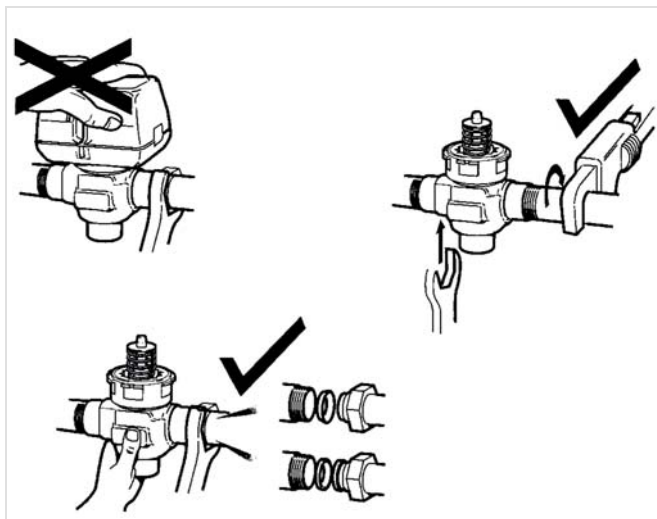

Fig. 5 Plumbing
- 3) The actuator head is automatically latched to valve (see figure 5). To remove, lift up on the latch mechanism located directly below the manual open lever. Press the actuator head down towards the body with moderate hand force and turn counter-clockwise by 1/8 turn (45 degrees) simultaneously. Lift the actuator head off the valve body.
- 4) Install the new actuator head by reversing process in (2).